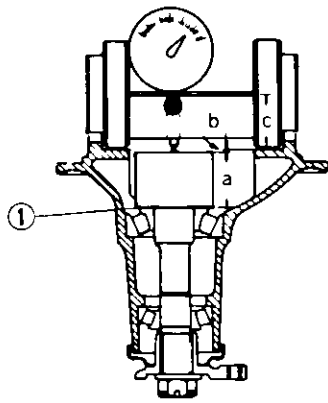

Fig. 16-21-4
- Referring to Fig. 16-21-4, note that three dimensions are involved: "a" "b", and "c". The value of "b" is unknown, and is to be determined now for calculating the required thickness of shims. The values of "a" and "c" are given: the sum, "a" + "c", is 94 mm, which is indicated on the dummy tool.
- Shim stock is available in twelve selective thicknesses. Select one or two shim(s) from the below to obtain the closest thickness to above required thickness, and insert selected shim piece(s) into clearance indicated as Fig. 16-21-4 – ①.